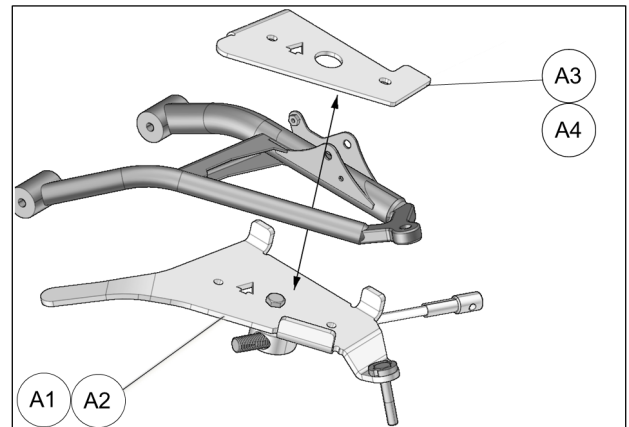

Fig. 19
- Position the bottom part of the anchor bracket (A1-A2) underneath the lower suspension arm. Position the top part (A3-A4) over the suspension arm. See Fig. 19